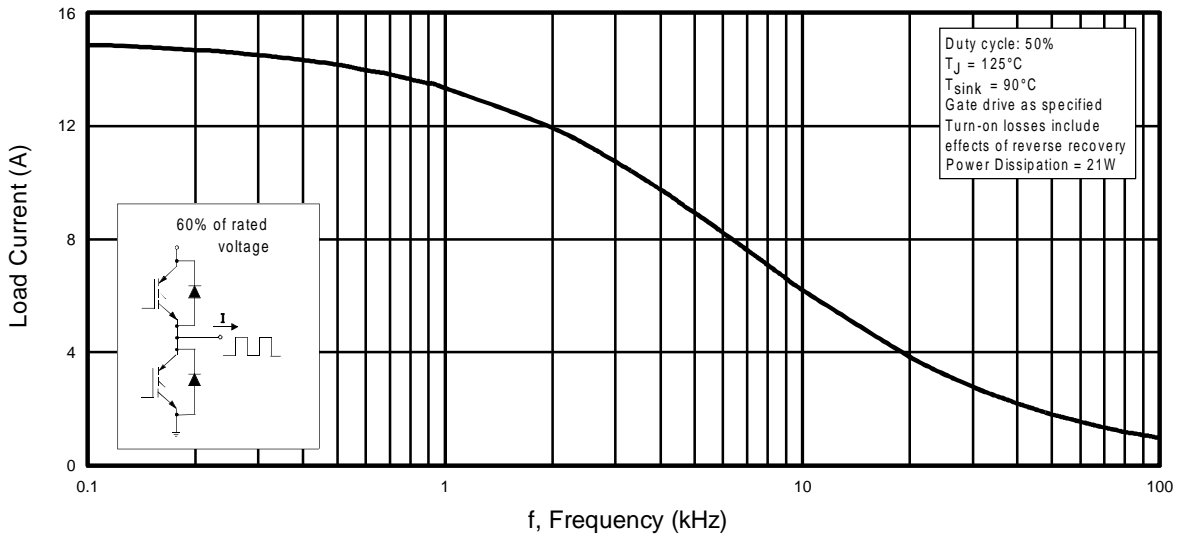

Fig. 1 - Typical Load Current vs. Frequency
- Optimized for medium operating frequency (1 to 10kHz) See Fig. 1 for Current vs. Frequency curve